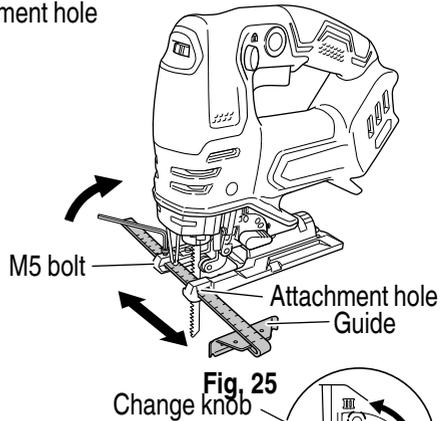

Fig. 25
- (3) Attach the guide by passing it through the attachment hole on the base and tighten the M5 bolt. (Fig. 25)
- (4) Set the orbital position to "0".